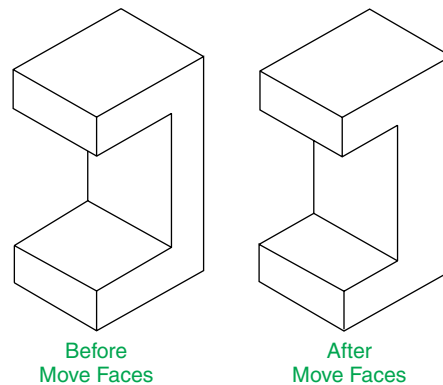

Fig. 19.7 Third example – **Move faces** tool
Third example – Move faces tool (Fig. 19.7)
1. Construct the 3D solid drawing shown in the left-hand drawing of Fig. 19.7 from three boxes which have been merged using the **Union** tool.
And the *picked* face is moved – right-hand drawing of Fig. 19.7.